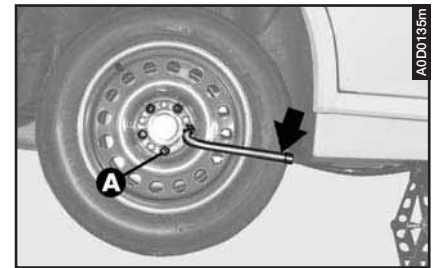

fig. 12
– Tighten the five fastening bolts (A-fig. 12).